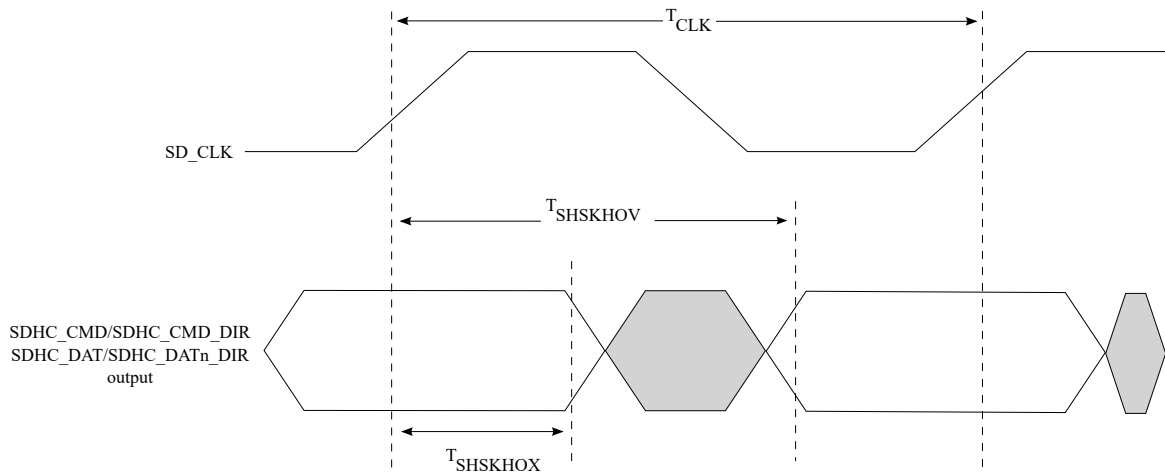

Figure 4. eSDHC SDR50 mode output timing diagram
6. See Figure 4
Figure 4 provides the eSDHC output timing diagram for SDR50 mode.